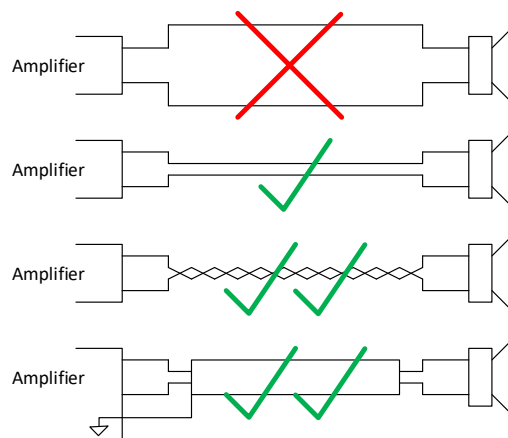

Figure 24: Speaker wire routing
- Avoid wire loops on the speaker output wires. Use wires closely paired side by side or if required use twisted or shielded cables (Figure 24)